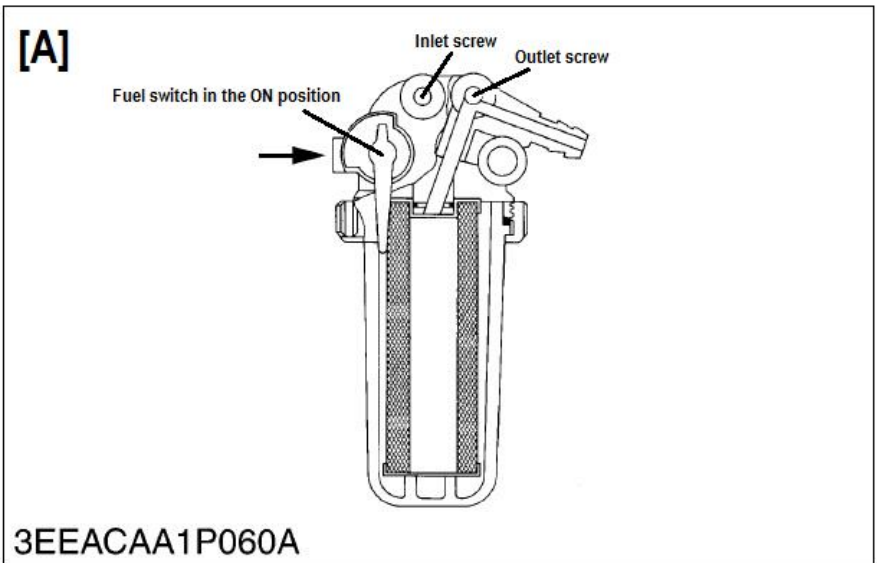

Figure 5
6. At the fuel filter bowl, (Fig 5 [A]) loosen the inlet screw and allow fuel to flow out. Use a cloth to catch the fuel surplus and allow flow to continue until there are no further air bubbles coming out. Tighten the inlet screw. Next, loosen the outlet screw and bleed until all air bubbles are gone. Tighten the outlet screw.
7. At the injector pump (Fig 5 [B]) locate the Fuel bleed screw on the side of the pump, loosen the Fuel bleed screw and allow the fuel to flow out into a cloth and again wait until the air bubbles are cleared then retighten the Fuel bleed screw.